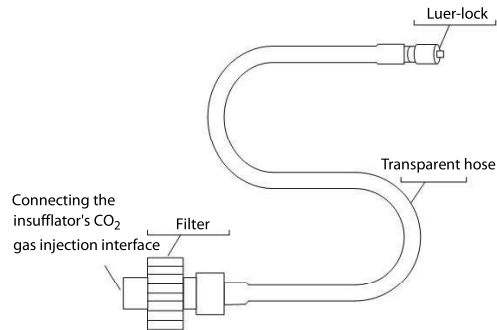

Figure 4-8 Installed insufflator tube (using filter)
2. Please install the filter between the insufflator tube and the insufflator's CO₂ gas injection interface. As shown in Figure 4-8.